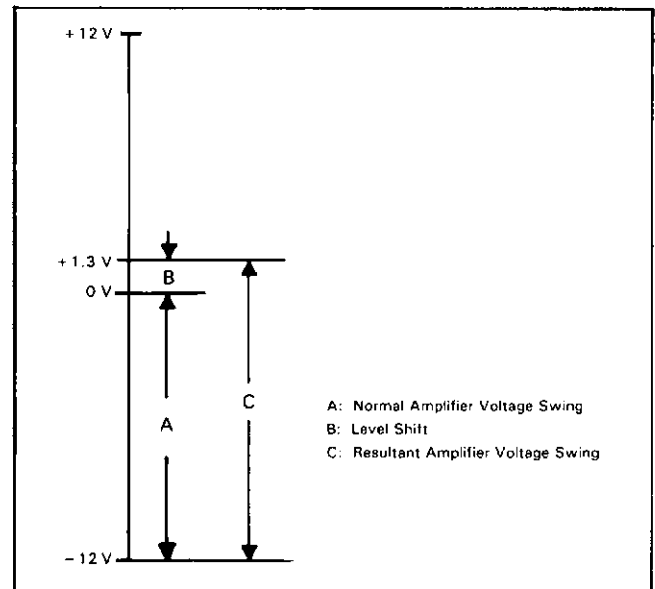

Figure 8-29. Level Shift for Low Ohms Offset Circuit.
8-134. Figure 8-29 and 8-30 illustrate how this circuit operates. The negative voltage swing at the output of the Input Amplifier is normally between 0 V and -12 V (A). The low ohms offset circuit level shifts the dc reference at the amplifier output from 0 V to $+1.3$ V (B) which increases the amplifier voltage swing range from 12 V (A) to 13.3 V (C). This is done by moving the bottom of, part of the U200 resistor divider from ground to -12 V_a.